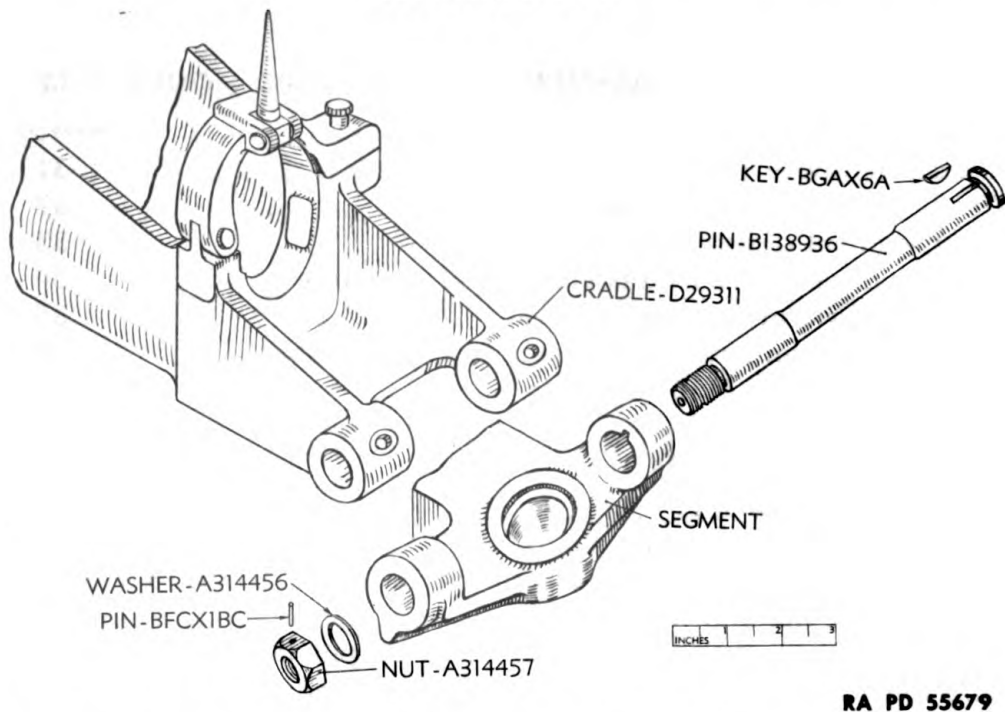
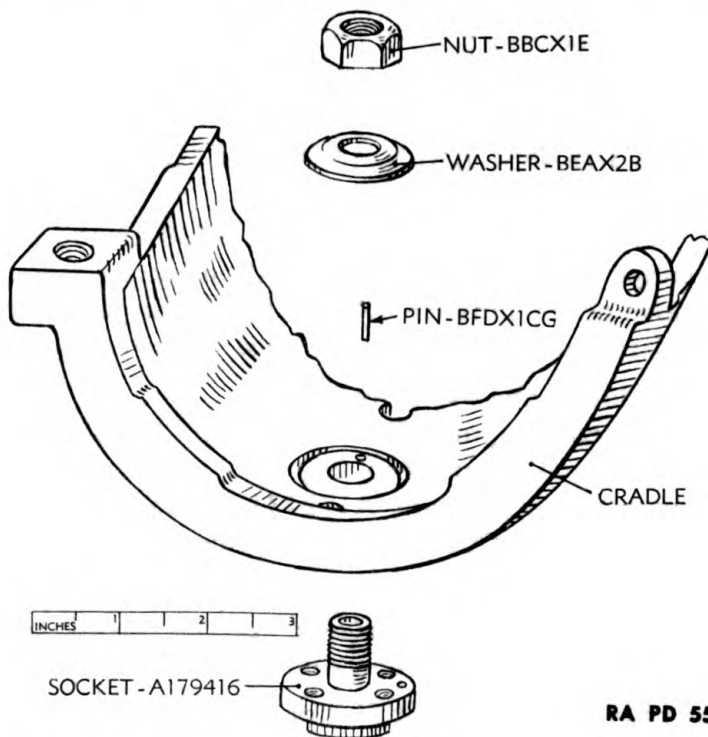

Figure 21—Cradle and Gear Segment Assembly at Front End
Figure 22—Cradle and Elevation Screw Socket Assembly—
(1) Remove the taper pin BFCX1BC from nut A314457 at the right-hand side of the front horizontal pivot pin B138936 (fig. 21). Remove the nut and washer from the front horizontal pivot pin.
(2) Remove the front horizontal pivot pin being careful not to lose the Woodruff key BGAX6A in the head end of the pin.
b. Elevation Screw Socket. Remove the nut BBCX1E and washer BEAX2B from the elevation screw socket A179416 at rear end of cradle (fig. 22). Pry the cradle from the elevation screw socket until it clears the locating pin BFDX1CG and lift the cradle from the gear segment.